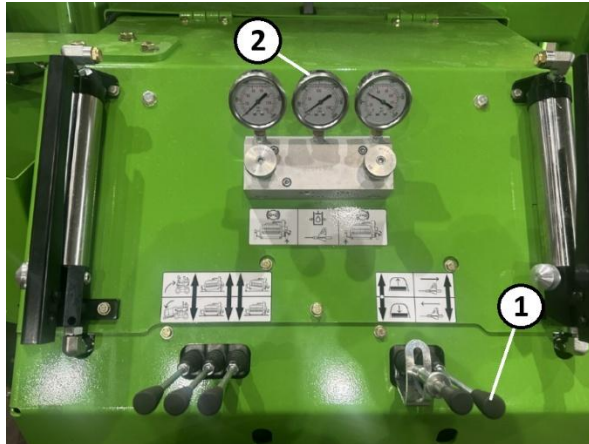

Figure 62. Anchor Position Control
1. Half-way through the last load, pull the anchors to the home position. See Figures 62 and 63.